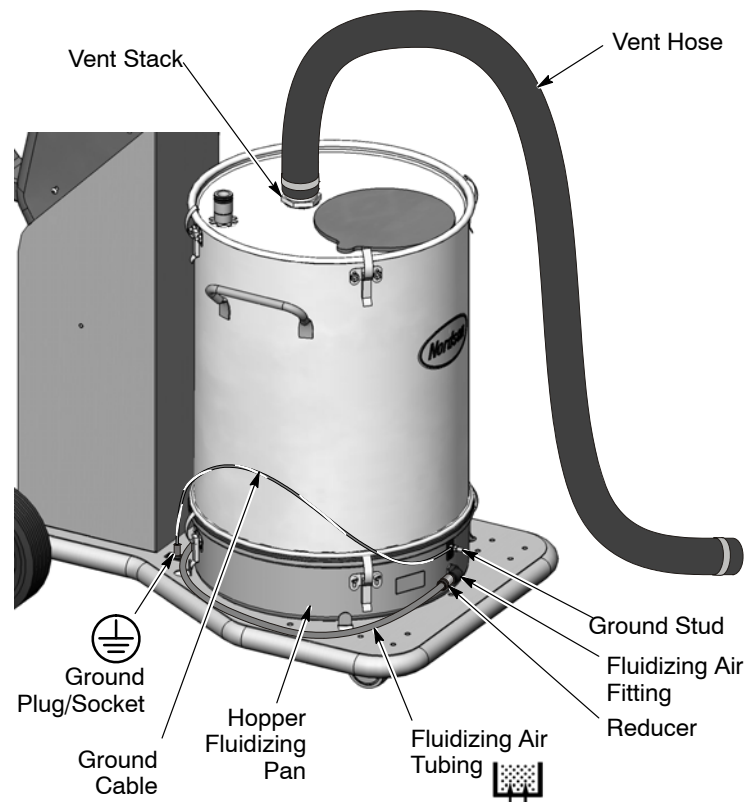

Figure 3-7 Hopper Installation on Mobile System dolly
1. See Figure 3-7. Unclamp the hopper lid and remove the vent hose and hose clamps.
Connect the vent hose shipped with the hopper to the hopper lid as shown in Figure 3-7. Route the vent hose to a vent stub on the booth or collector module.